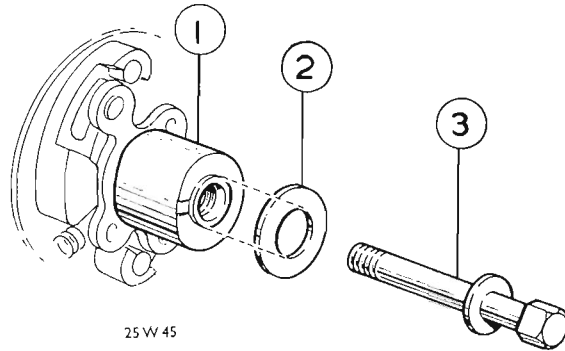

Fig. B44. Setting the contact breaker cam
Carefully remove the central fixing bolt (3) with washer from the contact breaker cam (1) and temporarily fit another washer (2) having a hole just large enough to clear the cam inner bearing (see Fig. B44), thus allowing the washer to bear against the top face of the cam.